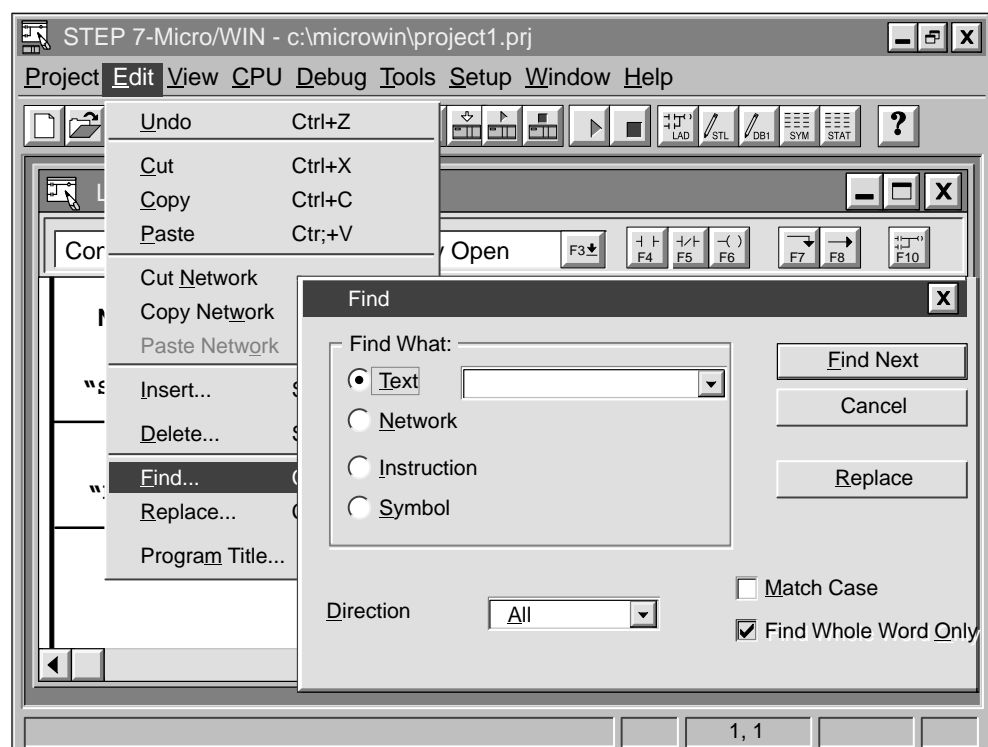

Figure 5-21 Find Dialog Box
You can use Find to search for a specific parameter and Replace to replace that parameter with another one. See Figure 5-21.
1. Select **Edit ► Find.....** Figure 5-21 shows the Find dialog box.